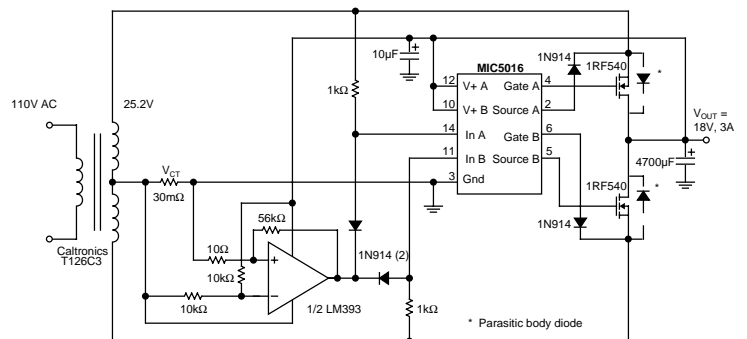

Figure 14: High Efficiency 60 Hz Synchronous Rectifier
**Synchronous Rectifier** (Figure 14) In applications where efficiency in terms of low forward voltage drops and low diode reverse-recovery losses is critical, power FETs are used to achieve rectification instead of a conventional diode bridge. Here, the power FETs are used in the third quadrant of the IV characteristic curve (FETs are installed essentially “backwards”). The two FETs are connected such that the top FET turns on with the positive going AC cycle, and turns off when it swings negative. The bottom FET operates opposite to the top FET.